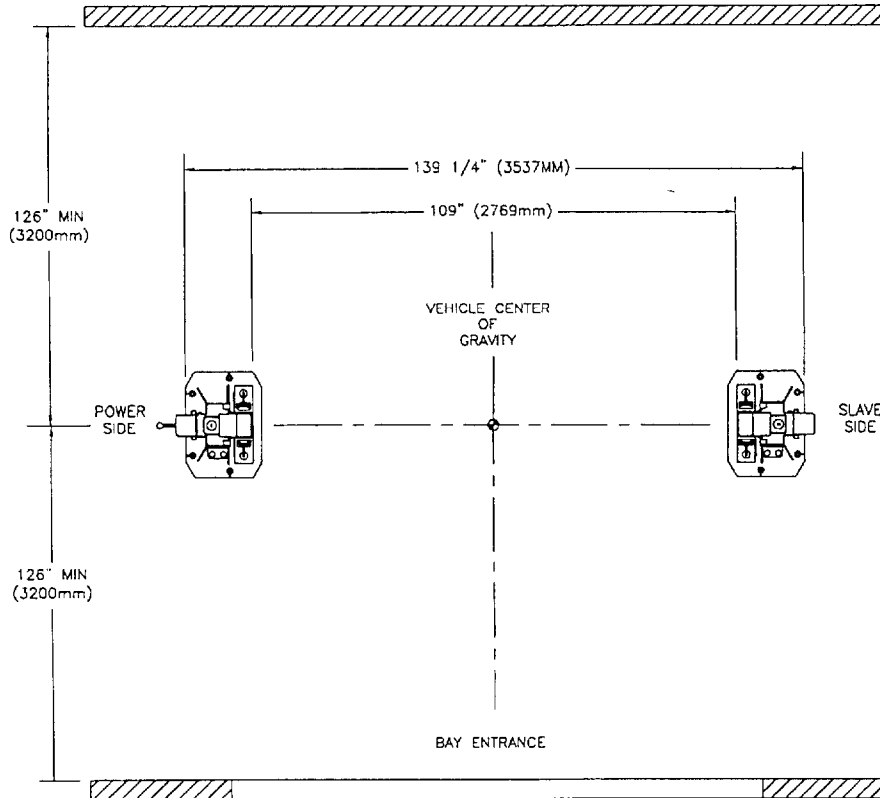
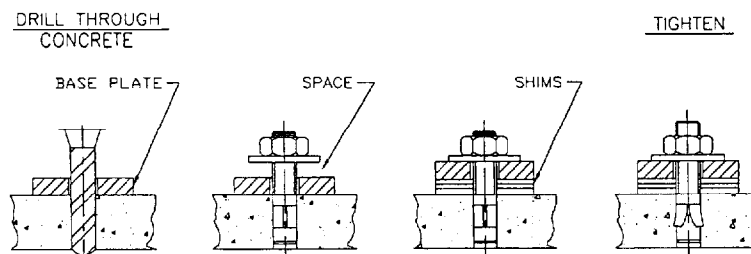

Figure 3 – Bay Layout
Figure 17 - Anchor Bolts
7. Prepare the bay by selecting the location of the lift relative to the walls. Clear the installation area of all packaging materials to avoid trip hazards. Draw a chalk line on the floor to represent the centerline of the bay then draw a second chalk line at 90° for locating the lift towers. Refer to **Figure 3**.
1. Locate the power side and slave side towers and position them as shown in **Figure 3**. Double check all the dimensions in the layout.
3. Check the towers to make sure they are located, and positioned in the correct location. Refer to **Figure 3**.
3. Refer to Bay Layout (**Figure 3**) to ensure that the column is still in the proper position. Using a rotary hammer drill with a 3/4" masonry drill bit, drill holes in the floor on the high side column using the tower baseplate as a template. Make sure that the 3/4" masonry drill is in good condition (**Figure 17**).
4. Carefully clean out drilling dust from the anchor holes. Hammer in the anchor bolts (**Figure 17**). Hand tighten all anchor bolts.
6. Torque all anchor bolts to 150 ft-lbs. (203 Nm), continually checking that the column is level as you proceed. If anchor bolts do not tighten to 150 ft-lbs. OR project more than 1 3/4" above the concrete surface (**Figure 17**), the concrete MUST be replaced by an appropriate concrete pad. (*Consult Product Manufacturer / Supplier for further details*).
2. Refer to Bay Layout (**Figure 3**) to ensure that the column is still in the proper position. Using a rotary hammer drill with a 3/4" masonry drill bit, drill holes in the floor on the low side column using the tower baseplate as a template. Make sure that the 3/4" masonry drill is in good condition (**Figure 17**).
3. Carefully clean out drilling dust from the anchor holes. Hammer in the anchor bolts (**Figure 17**). Hand tighten all anchor bolts.
5. Torque all anchor bolts to 150 ft-lbs. (203 Nm), continually checking that the crossmember and column are level as you proceed. If anchor bolts do not tighten to 150 ft-lbs. OR project more than 1 3/4" above the concrete surface (**Figure 17**), the concrete MUST be replaced by an appropriate concrete pad. (*Consult Product Manufacturer / Supplier for further details*).